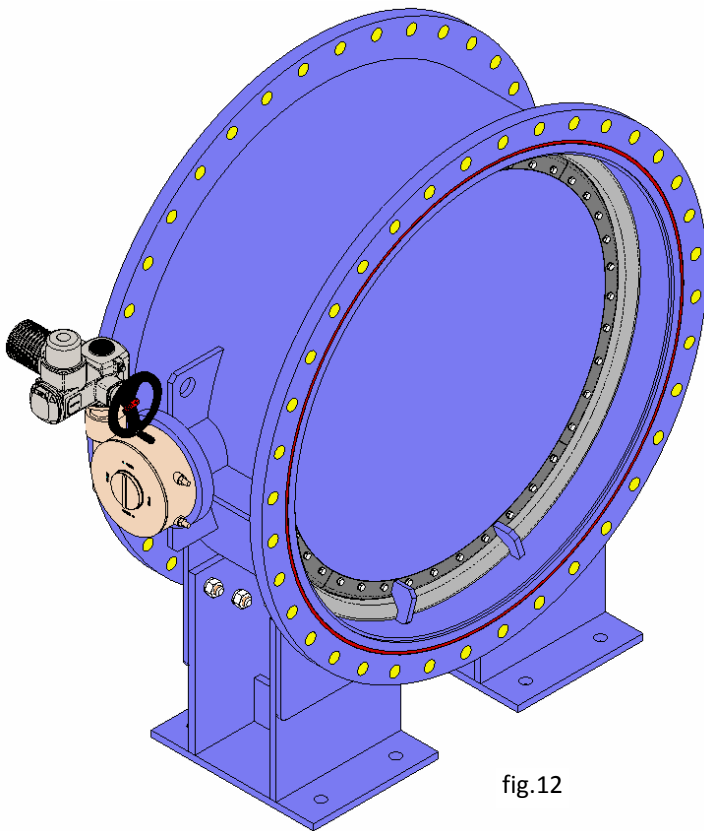

fig.12
- Motorised actuator (fig. 12): All motorised actuators supplied by CMO have a declutchable emergency wheel in order to operate the valve manually in the event of a power failure.